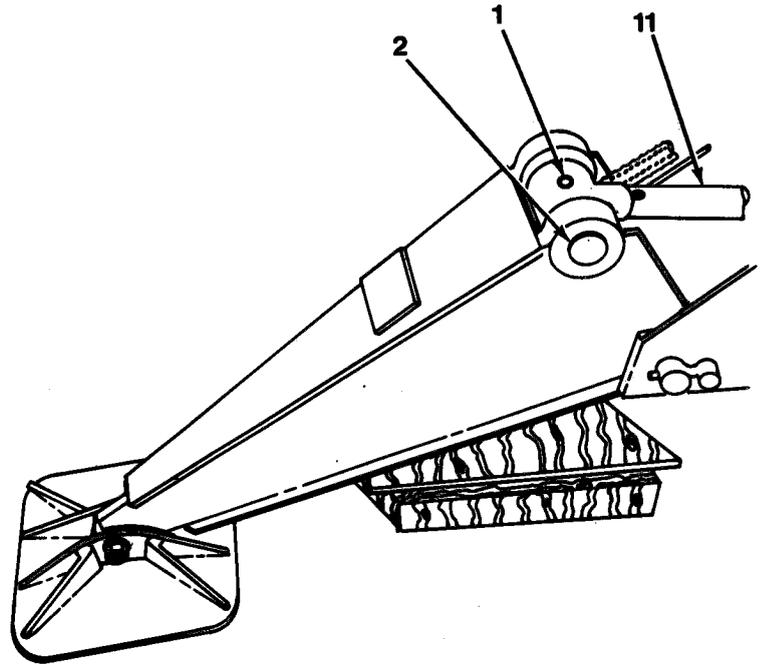

Figure 13-1
2. Support outrigger beam and outrigger cylinder assembly (11, Figure 13-1) with wood blocks.
3. Using a punch, remove pin (1) by driving through pin (2).
4. Using a brass drift pin, remove pin (2) by driving pin through beam.
5. Start engine. Retract outrigger cylinder rod into outrigger cylinder assembly (11). Shut engine off.